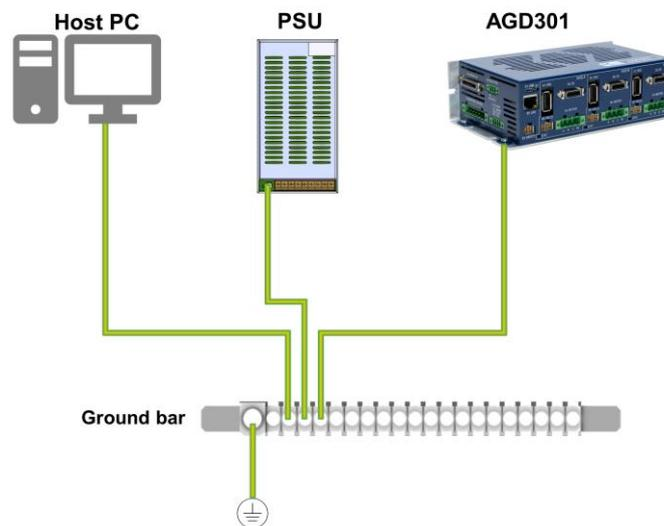

Figure 9. System Grounding
The AGD301 must be connected to protective earth (PE) and connected to the building's ground. PE is protected with an earth-leakage circuit breaker (ELCB); hence it is safe to touch. Refer to Figure 9.